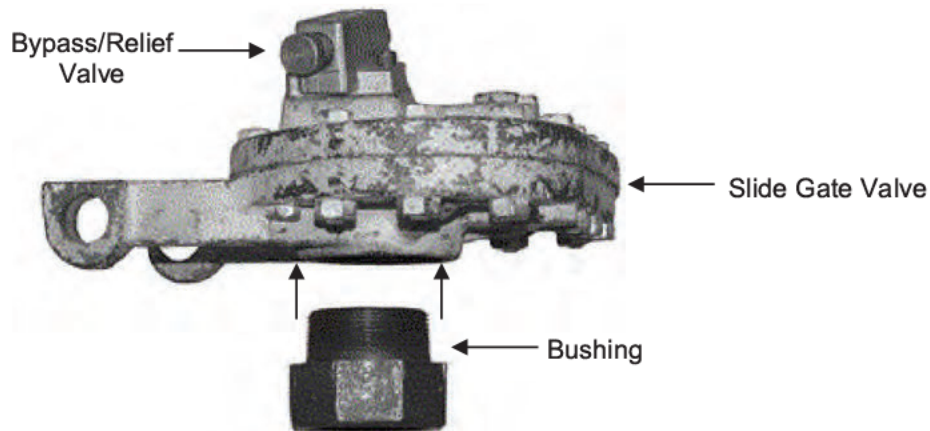

Figure 5. Slide Gate Valve With Bushing
- a. Attach valve bushing to lower side of slide gate valve AND tighten using smooth-faced wrench. (See Figure 5.)